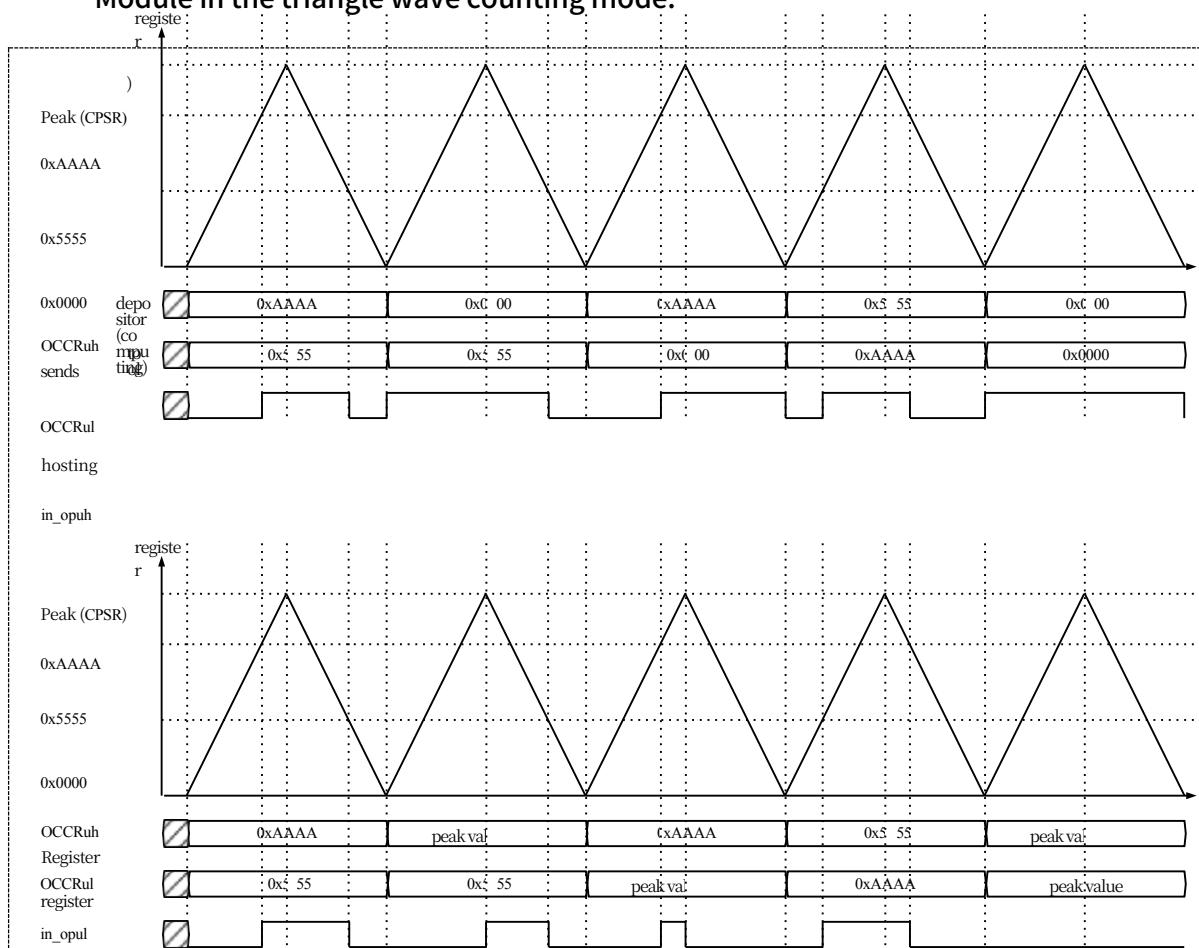

Figure 19-7 Triangle Mode Waveform Output Example
- Figure 19-7 below shows an example of the waveform output of the Compare Output Module in the triangle wave counting mode.